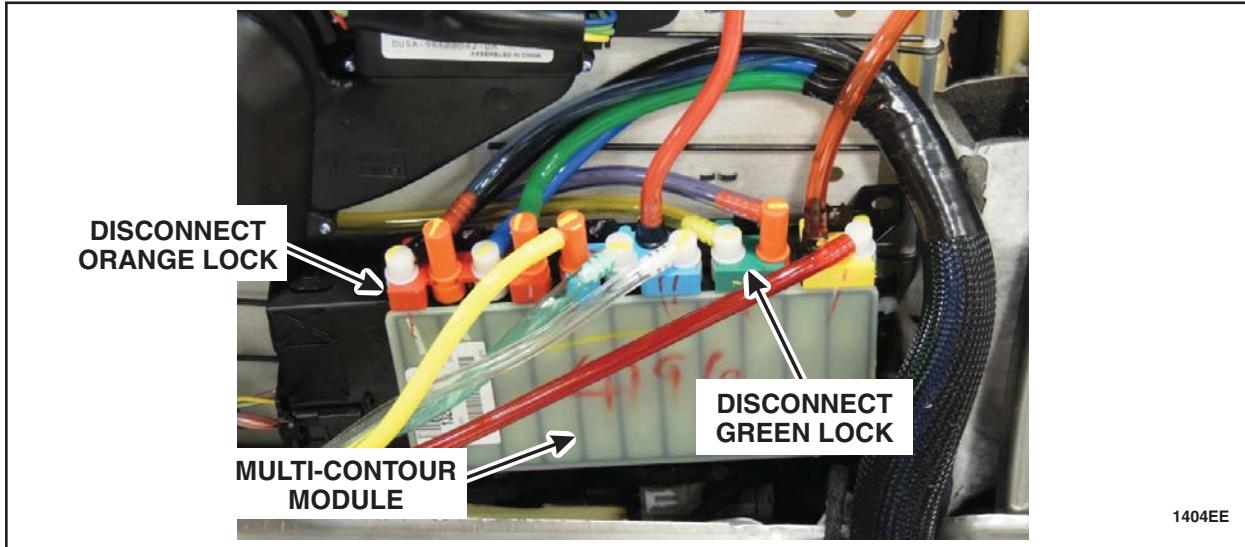

FIGURE 7
10. If equipped, disconnect the orange and green lock from the multi-contour seat module. See Figure 7.